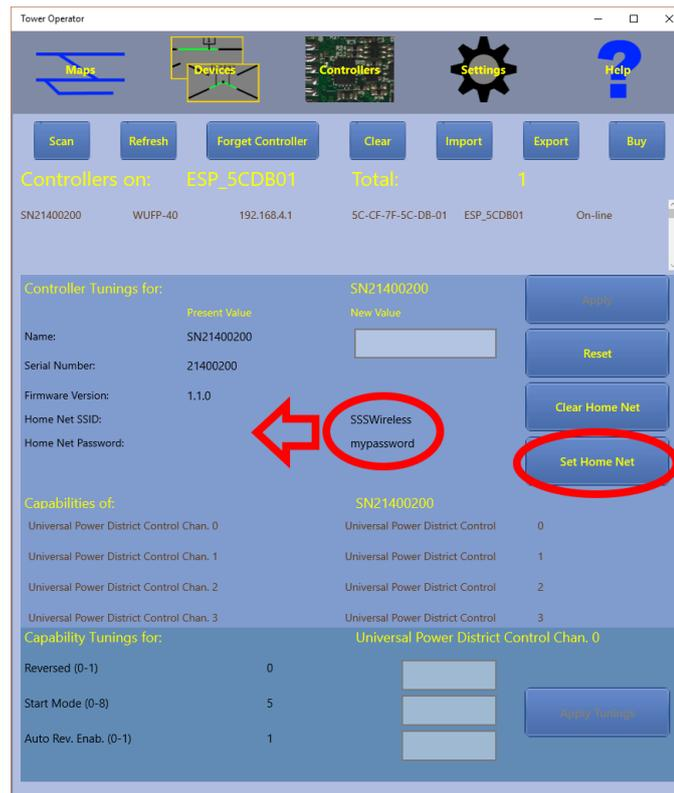

Figure 13 The WUFP-40 Controller Present on its own ESP_5CDB01 Network. Transfer the Home Network Information to this Controller.
Your Controllers screen should now show just one controller, as in Figure 13, the WUFP-40, whose network you joined.
(14) If you only had one WUFP-40 and were happy to always connect your tablet just to its Wi-Fi network and nothing else, you could continue in direct mode. You can also use Loco Operator in direct mode and operate a simple train set for as long as you like. However, for the example described in this document, there are three WifiTrax modules and your tablet with Tower Operator installed need to deal with all of them, therefore you need to go back to the General page of the Settings screen and select your home Wi-Fi network as the operating network.
(15) Next go back to the Network Settings of your computer as you did in (12) and connect back to your home network.
(16) Now go to the Controllers screen and do a scan on your home network. You should see the controller, similar to Figure 13, but now operating as a station on your home infrastructure network.